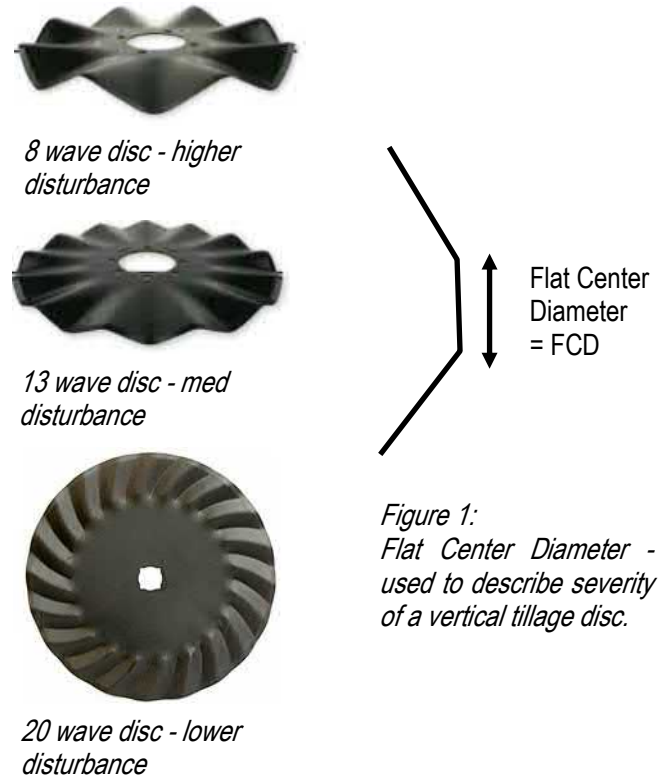

Figure 1: Flat Center Diameter - used to describe severity of a vertical tillage disc.
- ⇒ **"Flat Center Diameter"** is a way of describing the disc. The larger the value the **less severe** the disc (Figure 1, upper right).